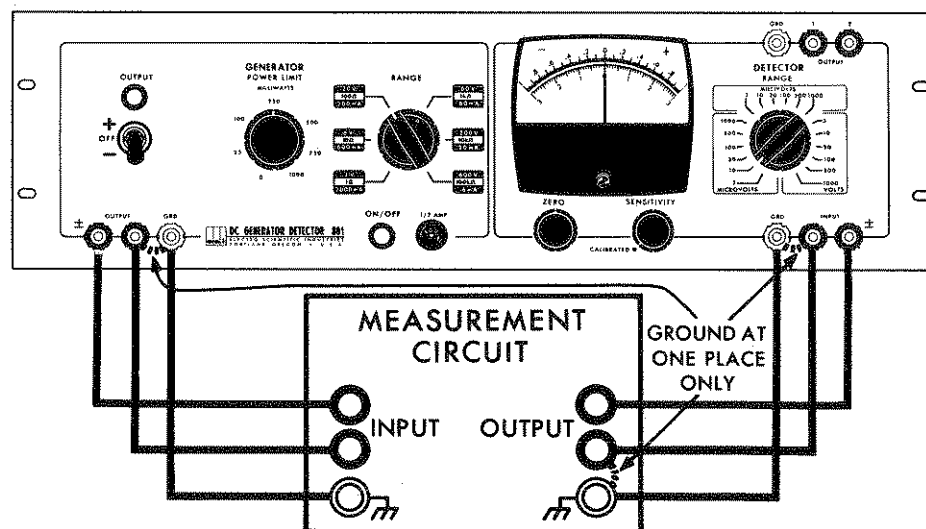

Figure 2.2 Basic Operating Procedure
2. Connect the measurement circuit to the generator OUTPUT and detector INPUT terminals as shown in Figure 2.2.